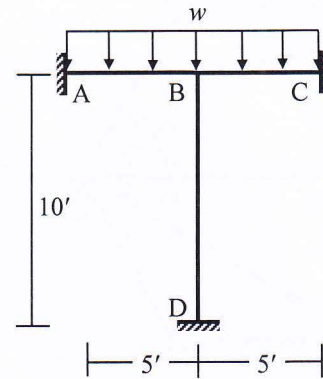

Fig. 8
8. Consider flexural deformations only (with consistent mass matrix) to calculate the natural frequencies of the frame ABCD shown in Fig. 8 [Given: $EI = 45 \times 10^3$ k-ft², $w = 3$ k/ft, $\mu = 0.0045$ k-sec²/ft²].
9. Frame structure shown in Fig. 8 is subjected to a dynamic load, $w = 10 \sin(2\pi t)$ (k/ft). Use Constant Average Acceleration (CAA) Method to calculate the rotation of joint B at time $t = 0.10$ sec [Given: $EI = 45 \times 10^3$ k-ft², $\mu = 0.0045$ k-sec²/ft², Damping ratio of the system = 5%].